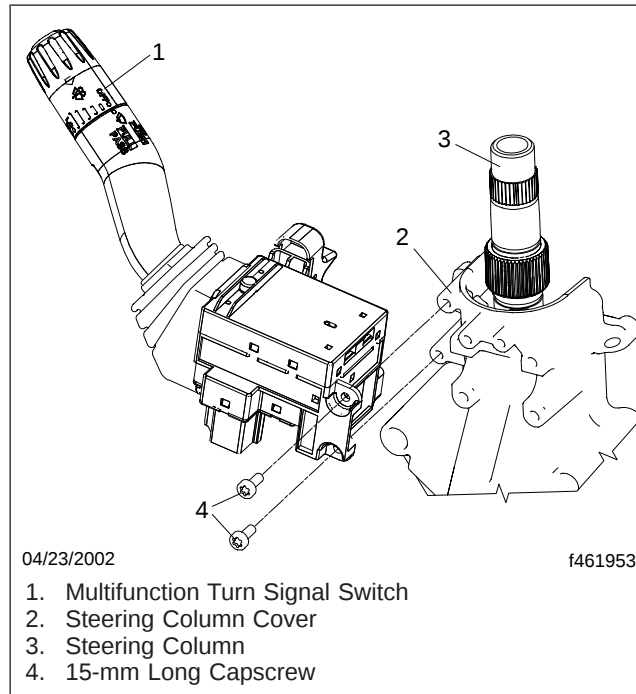

Fig. 2, Multifunction Turn Signal Switch Installation
4. Remove the capscrews that attach the multifunction turn signal switch to the steering column cover. See Fig. 2.